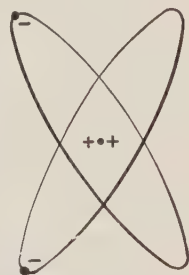

FIGURE 419. — HELIUM ATOM, ACCORDING TO BOHR.
investigation of the most diverse sort has come the electron theory, universally held to-day by men of science. According to this theory, all matter consists of positive and negative electricity. Every atom of every element contains both (Figure 419). If a body is unelectrified, it consists of equal amounts of positive and negative electricity. If it is negatively electrified, it has *more negative* than positive electricity; if it is positively electrified, it has *less negative* than positive. It will be noted that emphasis has been given to *negative* electricity rather than to positive. This is because hundreds of most ingenious and patient experiments all point to the conclusions: (1) that negative electricity exists in the form of tiny particles called *electrons*; (2) that the action of static charges is due to an excess or deficiency of these electrons; (3) that the motion of electrons constitutes an electric current in a metallic conductor; and (4) that the difference in the chemical elements is largely due to the number and arrangement of the electrons present. These are the cardinal points in the electron theory.